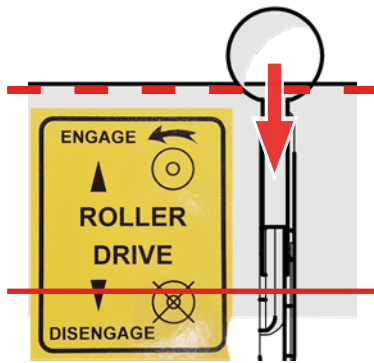

Fig.15E - Disengage the drive lever.
8. To **stop moving**, pull the Drive Lever towards the rear to the 'disengage' position - the cassette will continue to spin if the OPC is also depressed (Fig.15E).